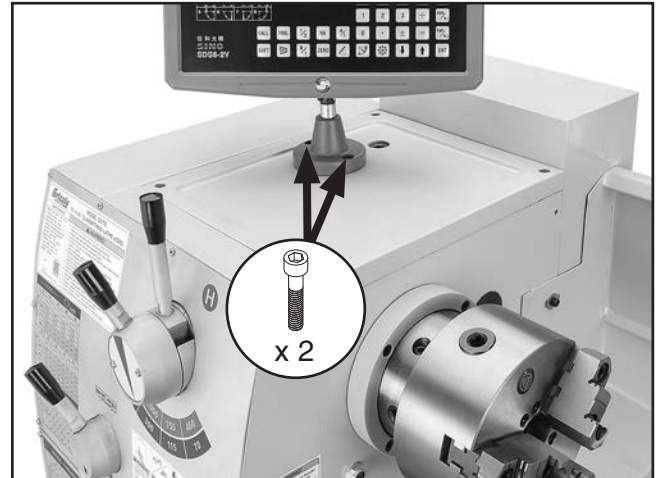

Figure 19. DRO unit mounted to headstock.
1. Secure DRO assembly to threaded mounting holes in headstock cover, using (2) pre-installed M5-.8 x 14 cap screws (see **Figure 19**).